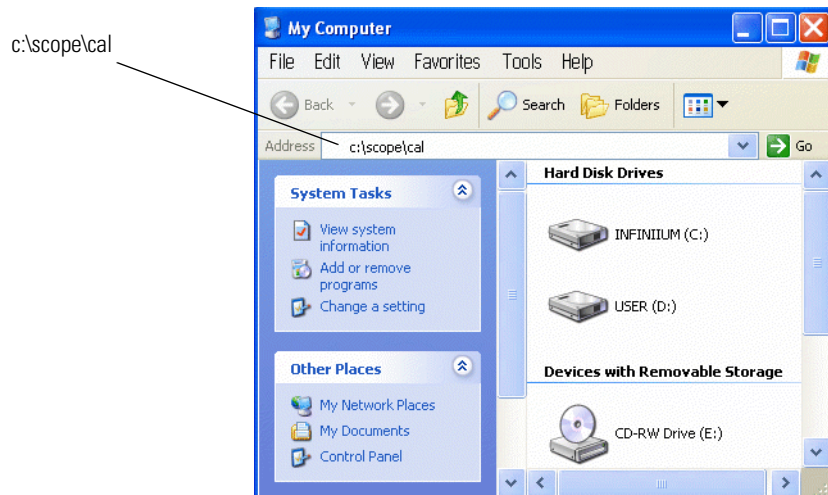

Figure 1-25. Locating the file framecal.dat
- e** Enter the path, `c:\scope\cal`, in the address line as shown in Figure 1-25 on page 1-34. Then, press **Enter** to locate the file, `framecal.dat`.
- d Copy this file and paste the file into the folder, c:\scope\cal. Locate the folder by entering the path, c:\scope\cal, in My Computer as shown in Figure 1-25. Click **OK** to overwrite the current file.